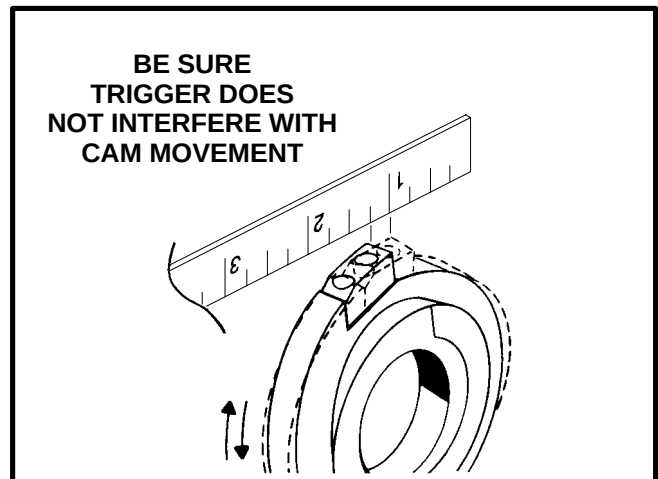

FIGURE 35
9. From the right side of unit, loosen the adjusting nut until the cam can be rocked back and forth approximately 1/4" (6.4 mm). Be sure to raise the trigger to ensure complete movement. Trigger must NOT interfere with cam stop. See Figure 35.